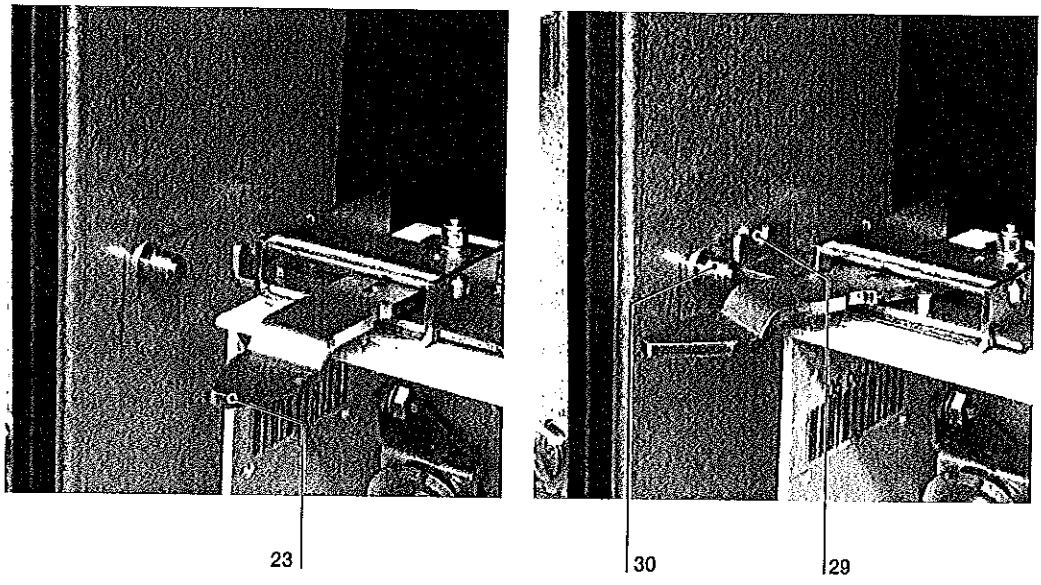

Fig. 5d
When the plug is not inserted in the socket (13), the feeler pin (23 - fig. 5d) prevents door closing.
When the plug is inserted in the socket (13), the lock bolt (29 - fig. 5d) hits the pin (30 - fig. 5d) preventing the apparatus from being racked out of the switchgear.